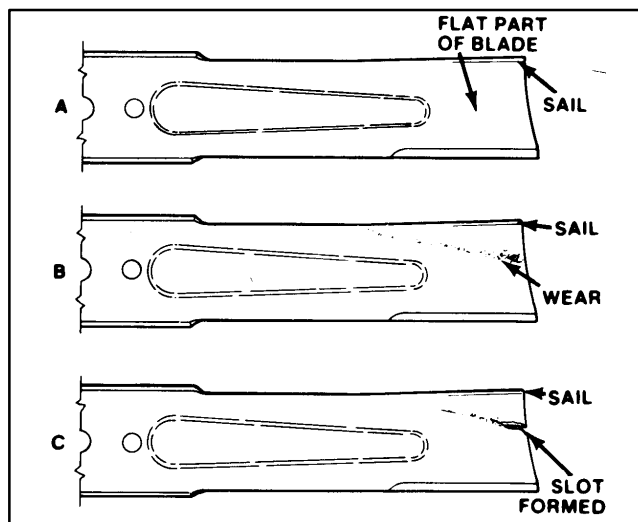

Figure 24
4. Examine cutting ends of the blade carefully, especially where the flat and curved parts of the blade meet (Fig. 24-A). Since sand and abrasive material can wear away the metal that connects the flat and curved parts of the blade, check the blade before using the machine. If wear is noticed (Fig. 24-B), replace the blade: refer to Removing Cutter Blade.
If blade is allowed to wear, a slot will form between the sail and flat part of the blade (Fig. 24-C). Eventually a piece of the blade may break off and be thrown from under the housing, possibly resulting in serious injury to yourself or bystander.